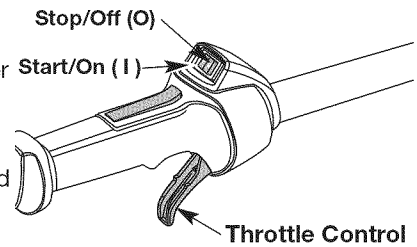

Fig. 10
**NOTE:** There is no need to turn the unit on. The On/Off Stop Control is in the ON ( I ) position at all times (Fig. 10).
2. Press and hold On/Off Stop Control in the OFF (O) position until engine comes to a complete stop (Fig. 10).